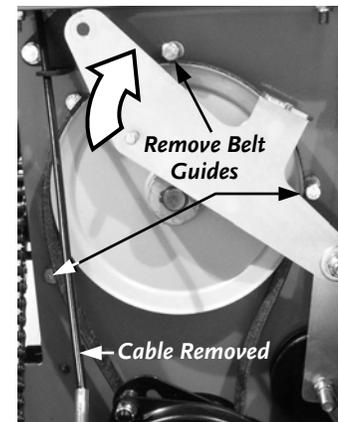

Figure 21
9. The Bracket is now loose. Tilt it to swing it up out of the way (**Figure 21**).
10. Remove the three (3) Belt Guides (**Figure 21**) and remove the Belt.